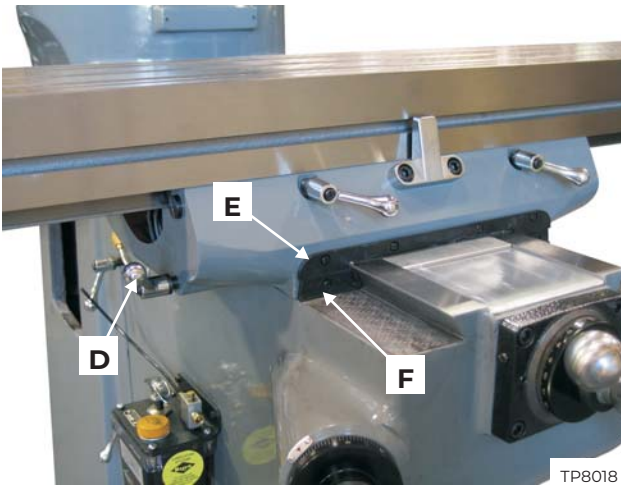
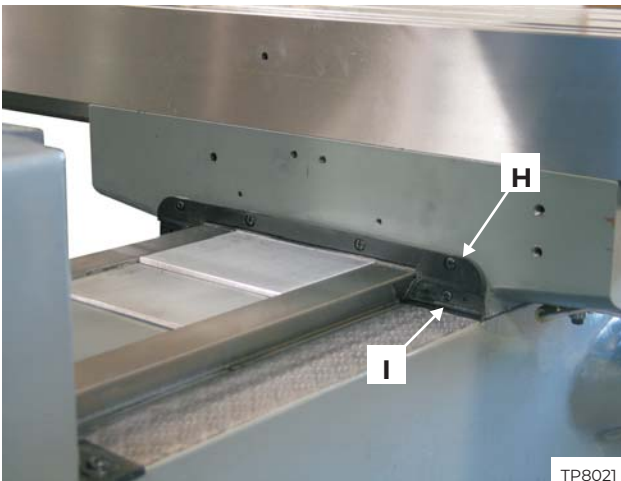
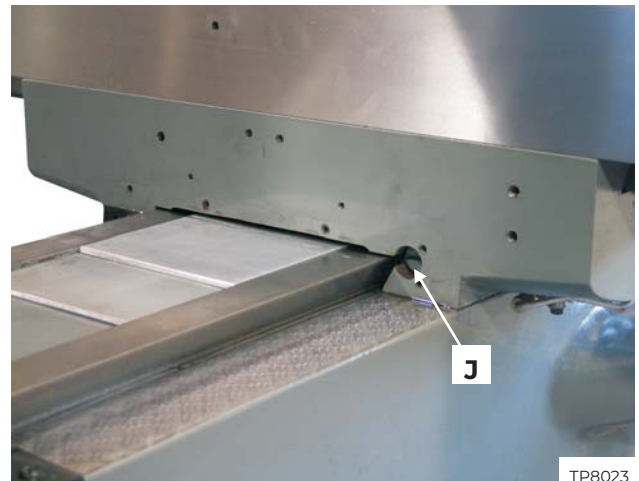

Figure 3.12 - Front Saddle Wiper and Retainer
Figure 3.14 - Rear Saddle Wiper and Retainer
Figure 3.15 - Rear Saddle Gib Adjustment Screw
1. Loosen saddle clamp "D", Figure 3.12.
3. Remove wiper retainer "E" and wiper "F", Figure 3.12, to gain access to front gib screw "G", Figure 3.14
4. Remove wiper retainer "H" and wiper "I", Figure 3.14, to gain access to rear gib screw "J", Figure 3.15